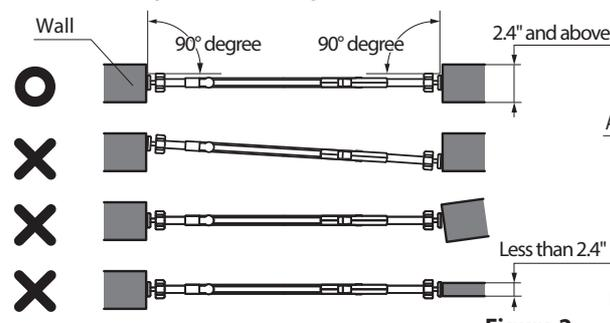
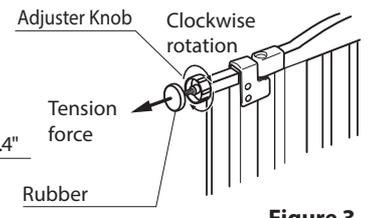

Figure 2
Figure 3
•If the product has been installed correctly, the top of the gate (while looking down from above the top) will be as straight as a line with each end aligned at a 90-degree right angle as shown in Figure 2.
- ① Determine the desired direction for the door opening. Set the product against the wall at a perpendicular right angle as shown in Figure 2. Tighten the upper Adjuster Knob until the rubber of the Adjuster Knob touches the wall surface as shown in Figure 3.